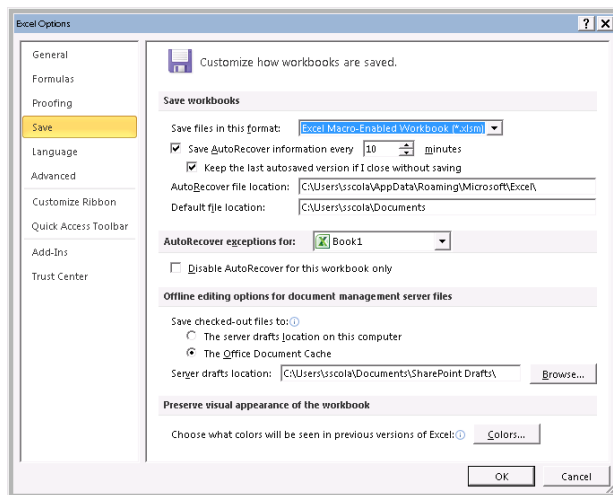

Figure 1. Turn off Compatibility Mode
1. Go to Excel Options. A dialog will appear as shown in Figure 1 (Excel 2010).
4. The Options window should look like Figure 1.